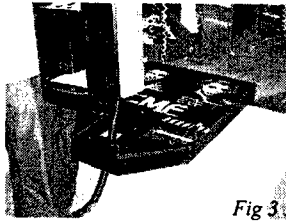

Fig 3
6. Offer the Coin Tower up onto the Floor (Fig 3) ensuring that the Flexipipe continues through the access hole (Fig 4).